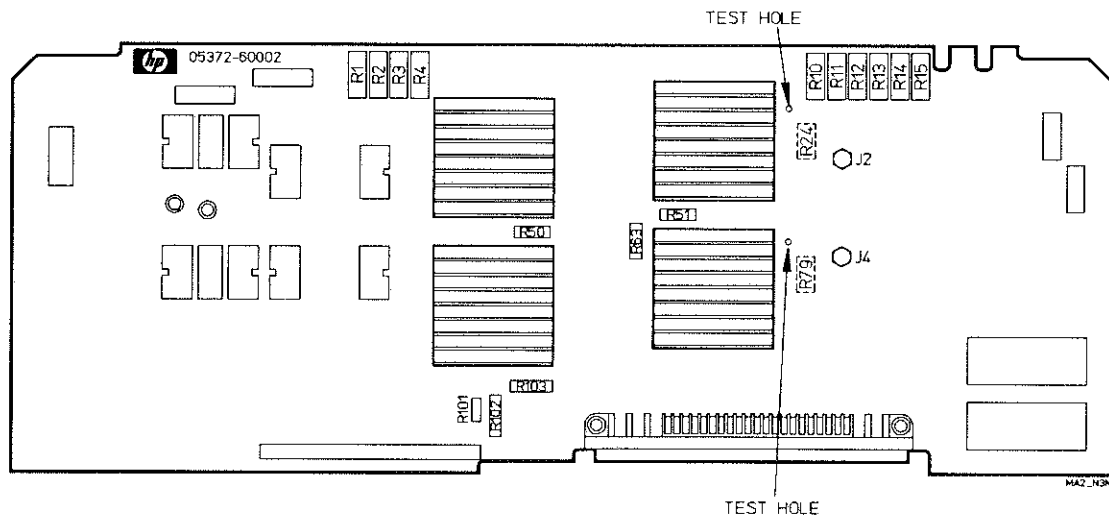

Figure 3-20. A2 Input Amplifier Board Adjustment Locator
4. Insert the test probe point in the test hole located at the upper end of A2R79 as shown in *Figure 3-20*. (This hole is drilled through the pc board and is located between resistors A2J4 and A2C30.)